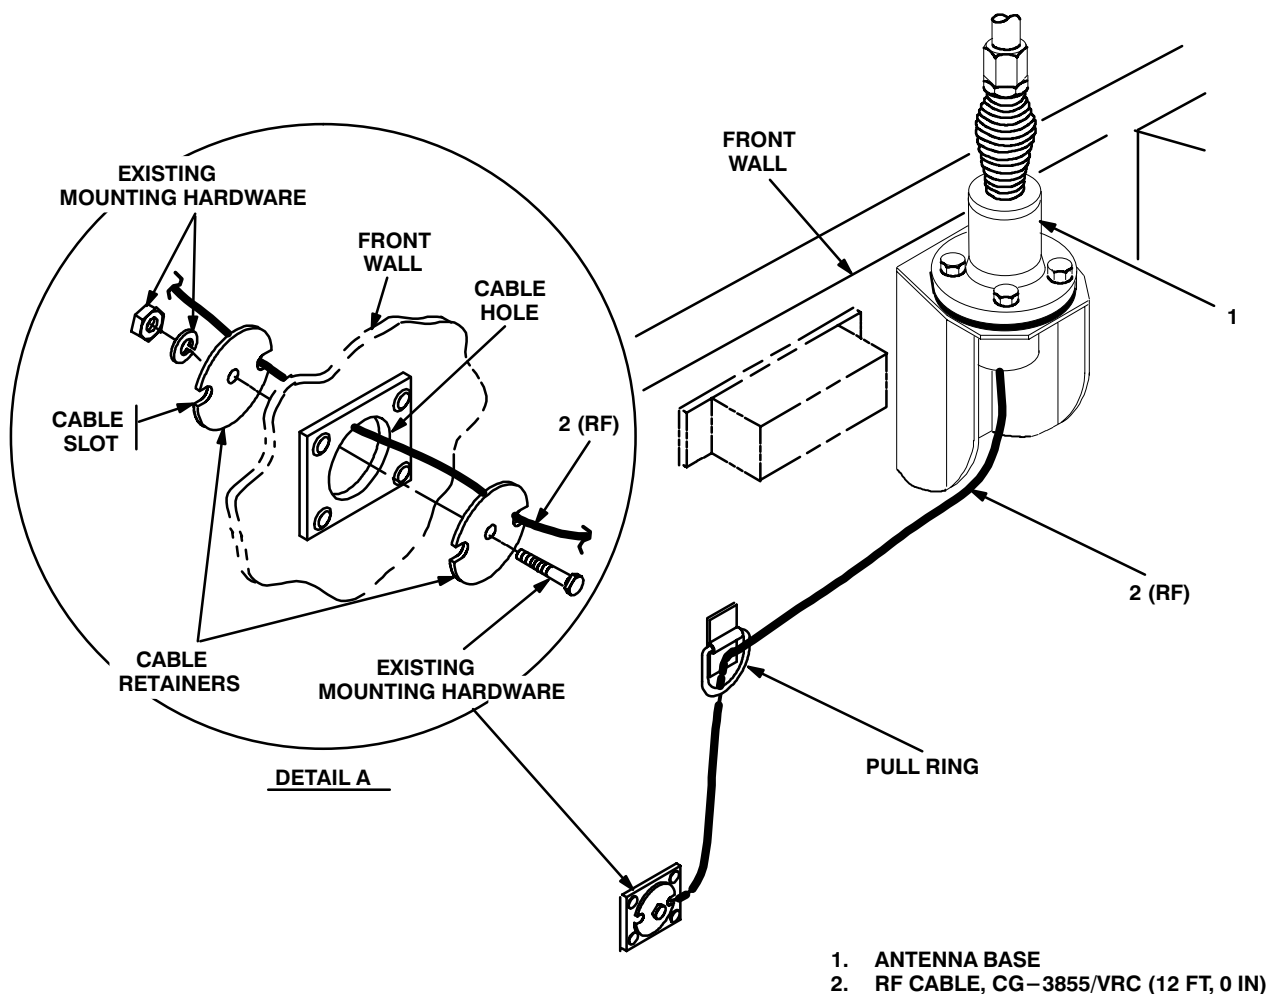

Figure 5-5 (1). Cable Installation: Exterior Cabling
a. RF cable (2) connector P1.	Connect and secure to antenna base (1) connector J1. See figure 5-5.
b. Two cable retainers and existing mounting hardware.	Temporarily remove from cable hole (inside and outside) in front wall. See figure 5-5 (1), detail A.